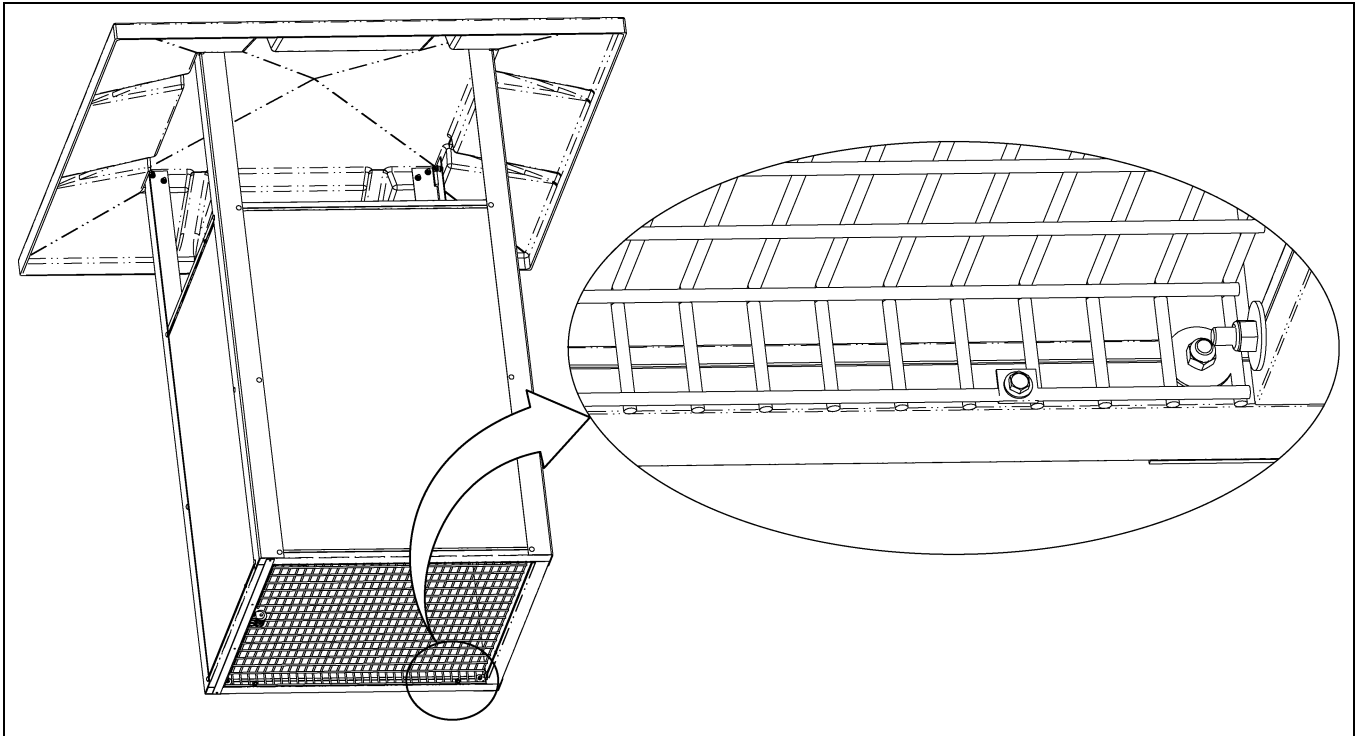

Figure 2M Bird Wire Screen
Install the bird screen as shown in *Figure 2M* and *Figure 2N*. Use four (4) retaining lids and self-drilling screws in the corners to attach the screen to the aluminum channels. Note the square cutout in the screen is to be located directly below the pulleys on the pulley bracket assembly.